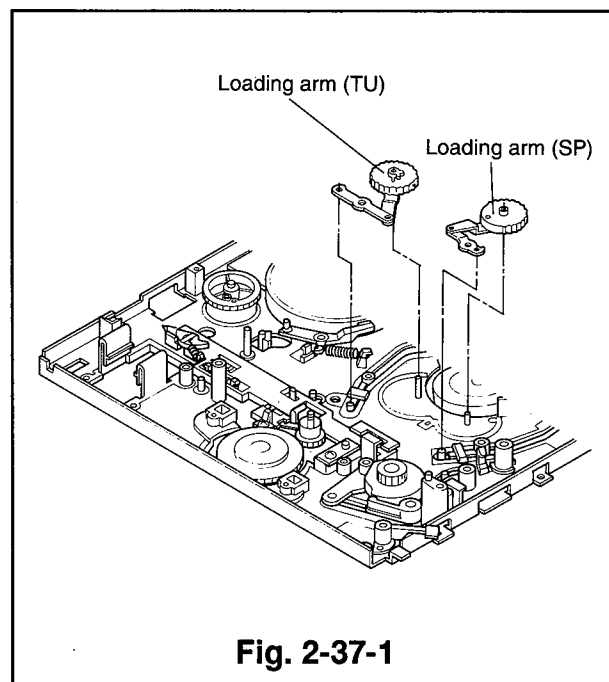

Fig. 2-37-1
- ① Remove the reel belt and the belt pulley. (Refer to Para. 2-28 for the removal method.)
- ② Remove the loading motor assembly(which holds the motor holder). (Refer to Para. 2-29 for the removal method.)
- ③ Remove the main gear-J. (Refer to Para. 2-30 for the removal method.)
- ④ Remove the plate-J, the roller-B, and the cam plate-B. (Refer to Para. 2-33 for the removal method.)
- ⑤ Raise the loading arms upward, first SP and then TU, to remove them.(Refer to Fig. 2-37-1)
- ② Place the new loading arm(TU) in the position shown in Fig. 2-37-1, then place the loading arm(SP) in the position shown in Fig. 2-37-1 at the same time aligning the marks on the cogs, refer Fig. 2-37-3(shaded area).